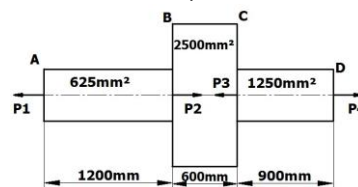

Figure 3
18. A member ABCD is subjected to point loads  $P_1, P_2, P_3$  &  $P_4$  as shown in **Figure 3**. Calculate the force  $P_2$  necessary for equilibrium. If  $P_1 = 45 \text{ kN}$ ,  $P_3 = 450 \text{ kN}$  &  $P_4 = 130 \text{ kN}$ . Determine stresses in each member also determine the total elongation of the member assuming the  $E$  to be  $2.1 \times 10^5 \text{ N/mm}^2$ .